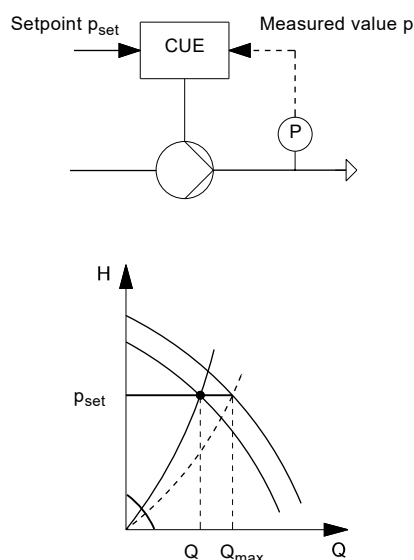

Fig. 112 Constant pressure control
The PID controller compares the required setpoint ( $p_{set}$ ) with the actual value ( $p$ ) measured by the transmitter (P). See fig. 112.